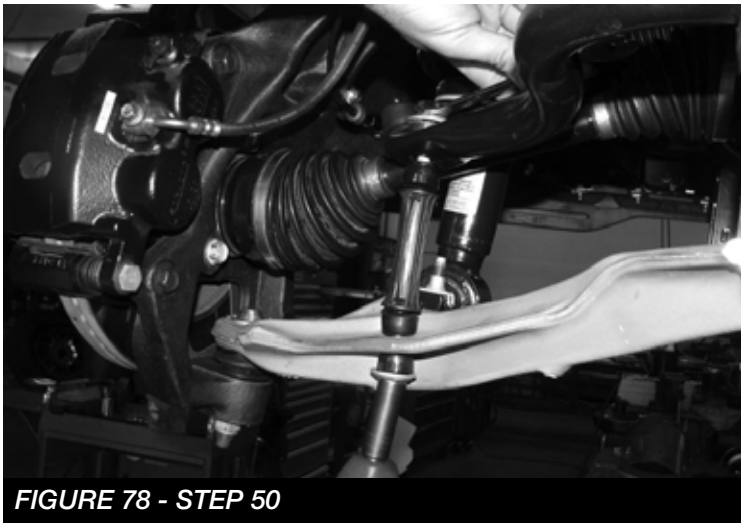

FIGURE 78 - STEP 50
50. Install the factory sway bar using the provided 3/8"-16 x 1-1/2" bolts, washers and nuts. Torque to 52 ft-lbs. Install the factory sway bar links with the factory hardware and torque to 58 ft-lbs. **SEE FIGURES 78**